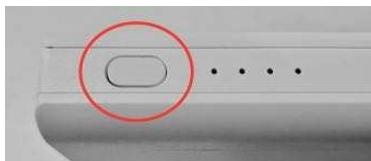

Figure 19.1. The power button on the RAVPower Battery.
**Resolution:** Press the button on the side of the battery (Figure 19.1).